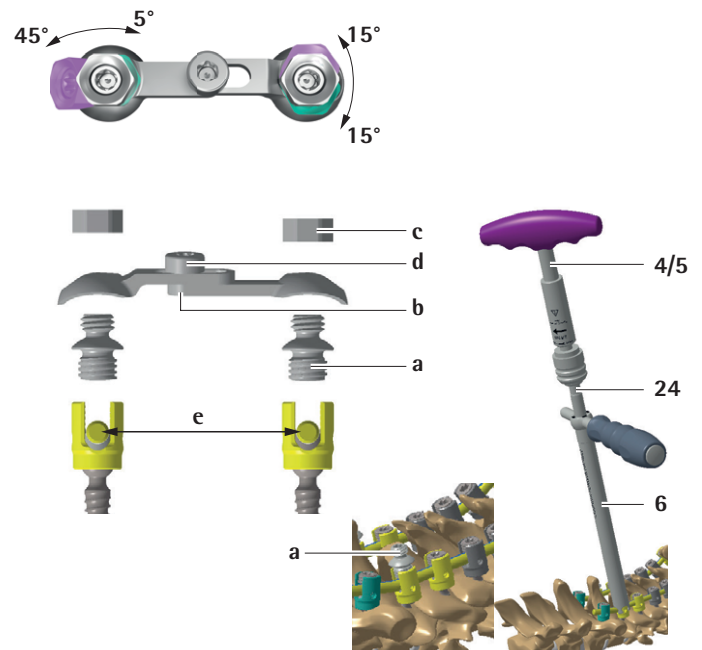

Fig. 47
The head-to-head cross connectors allow angulation in the following planes: 45° lateral, 5° medial, 15° caudal and 15° cranial, as shown at the top of the image, see Fig. 47.
- ▶ Measure the distance e between the centers of the rods using the caliper 49 (SZ029R) to choose the connector size, as seen on the left side of the image, see Fig. 47.
- ▶ Place the extended set screw a and finally tightened it in the polyaxial screw head, see Fig. 47, see Chapter 3.16.